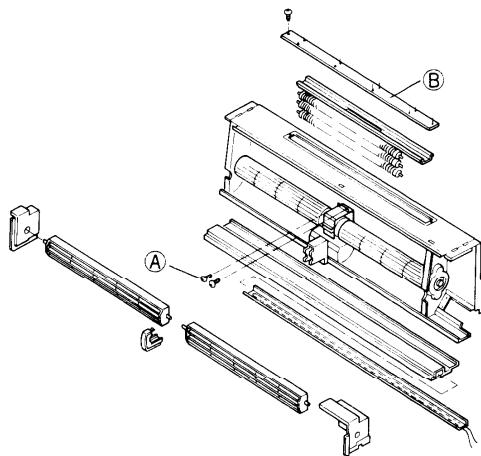

Fig. D-7
- 2) Unscrew the two screws (A) fixing the heater.
- 3) Remove the cover top plate (B) in the upper part of the unit by unscrewing ten screws to detach the electric heater assembly from the upper part of the unit. See Figure D-7.